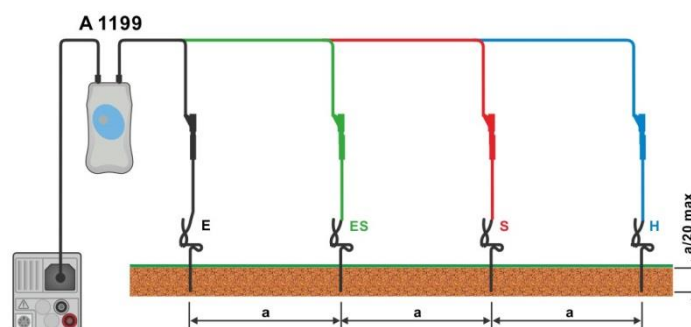

Figure 7.74: Specific earth resistance measurement
- › Connect test leads to earth probes, see **Figure 7.74**.